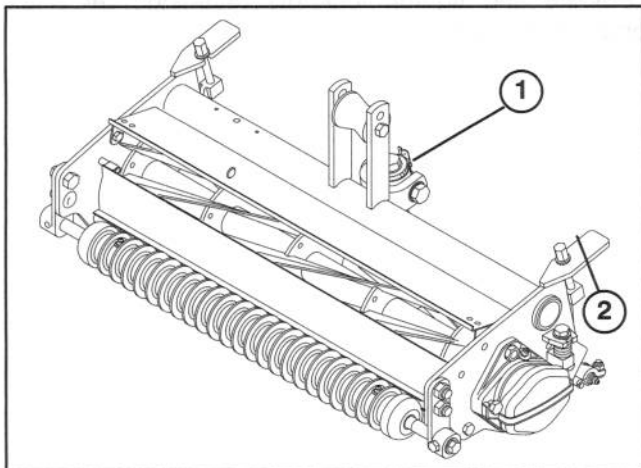

Figure 1
(Fig. 1 & 2)
2. Make sure reel contact is removed by turning bedknife adjustment knob counterclockwise (Fig. 1).